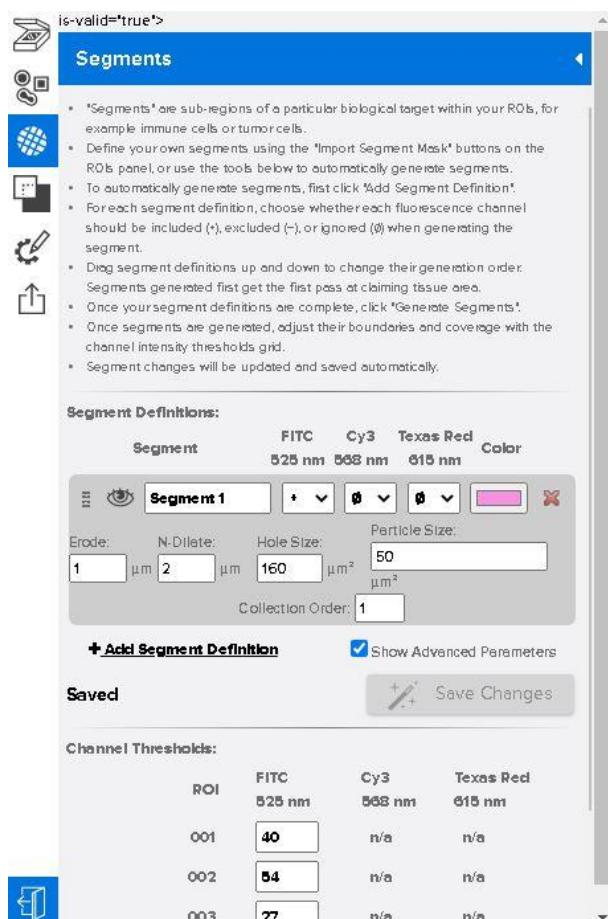

Figure 36: Segment definitions with channel thresholds
- After your first autosegmentation, a **Channel Thresholds** grid will appear below your segment definitions, allowing you adjust your segments manually for each ROI. Adjust the values in the **Channel Thresholds** grid, as needed, to change the sensitivity to each channel you've chosen to assess (the channel designation set to +) (see Figure 36).